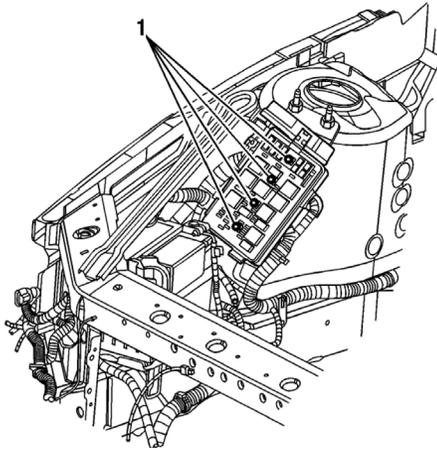

Fig. 5 Underhood junction block bolts
12. Loosen bolts (1) retaining engine, IP and forward lamp wiring harness connectors to junction block, **Fig. 5**.